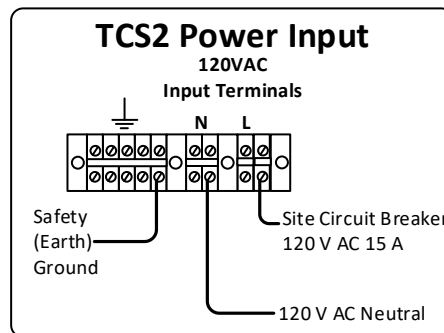

Figure 2: AC Wiring
- 3) Connect the AC power wires from your 110VAC power. See Figure 2: AC Wiring.